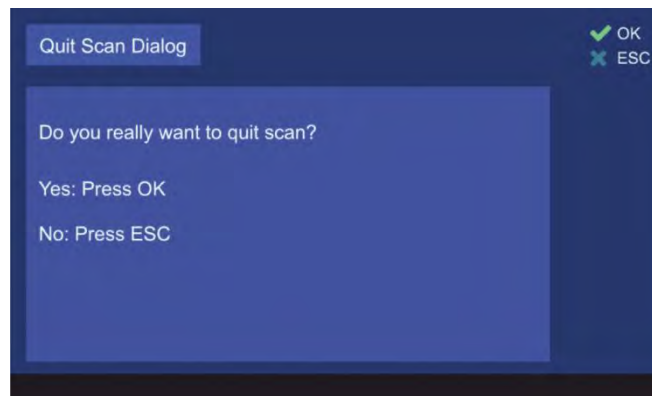

Figure 24. Confirming of leaving the scan mode
You can also stop the scan mode by pressing the “HOME” button on the “Bearing” page with activated scan. After you have confirmed the special dialog (s. Figure 24), this mode will be terminated.
- You can also stop the scan mode by pressing the “HOME” button on the “Bearing” page with activated scan. After you have confirmed the special dialog (s. Figure 24), this mode will be terminated.